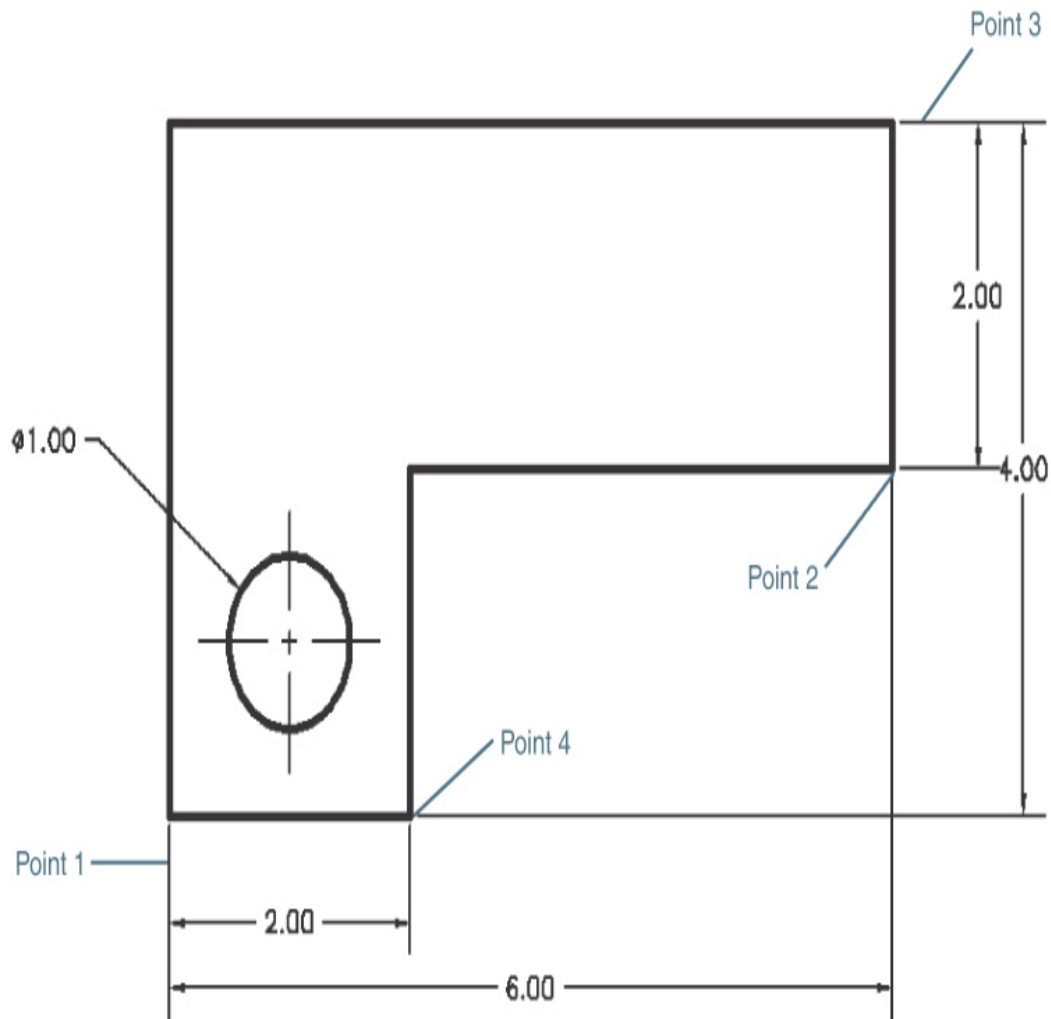

Figure 2-38
- 10** Pick the left dimension line of the first dimension you created (point 1 in Figure 2-38). A dimension line rubber-bands from the dimension you selected.
- 11** Make sure your **Object Snap** toggle is turned on in the status bar and move your cursor near point 2 shown in Figure 2-38. When the **Endpoint** object snap appears, pick that point to select the endpoint of that line. AutoCAD will place the dimension and start dragging a new dimension.
13 Pick the upper dimension line of the vertical dimension (point 3 in Figure 2-38).
14 Move your cursor near point 4 shown in Figure 2-38. When the **Endpoint** object snap appears, pick that point to select the endpoint of that line. AutoCAD will place the dimension and start dragging a new dimension.